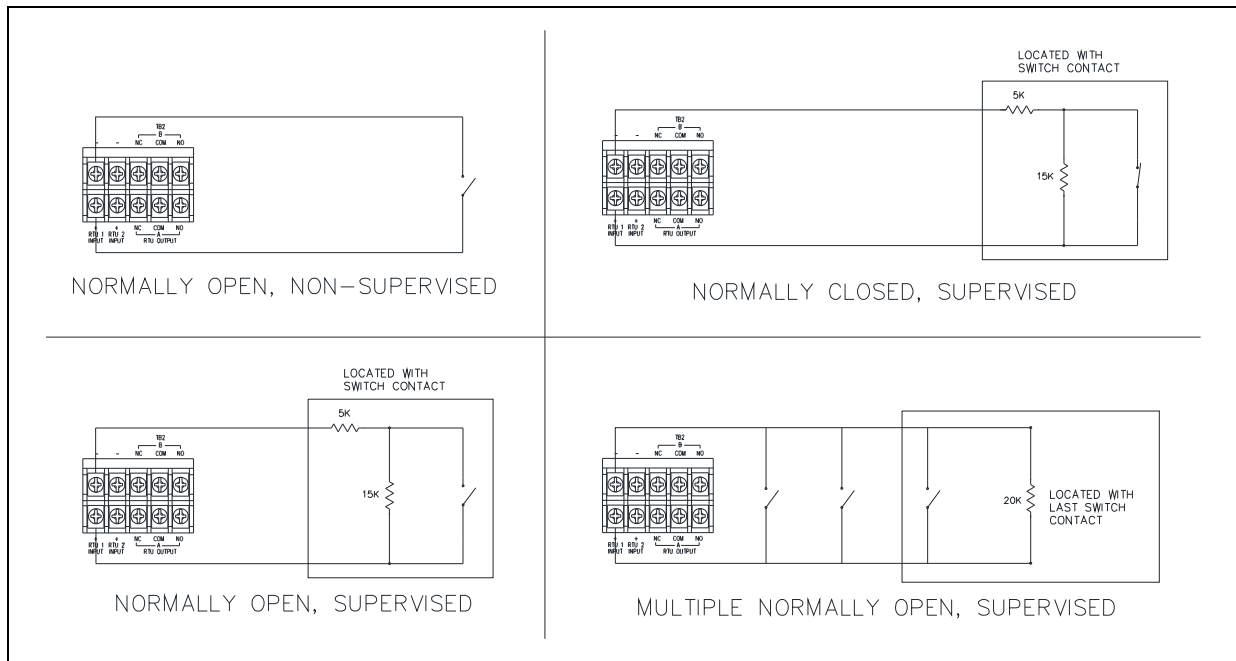

Figure 6. RTU Input Wiring Configurations for Cable Monitoring
5. Install end-of-line resistors (see Figure 6) to enable RTU input-cable monitoring.